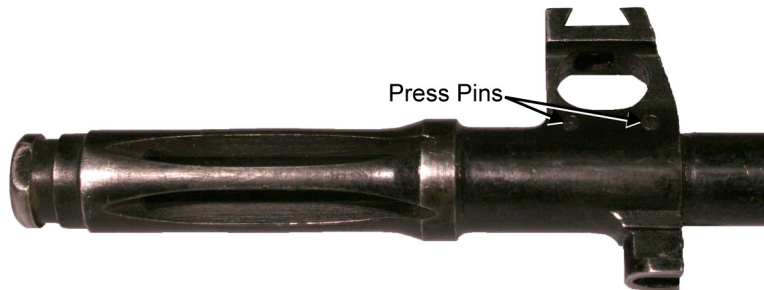

Figure 2. Press Pins.
3. Drift out the two press pins from the flash suppressor. Refer to Figure 2.